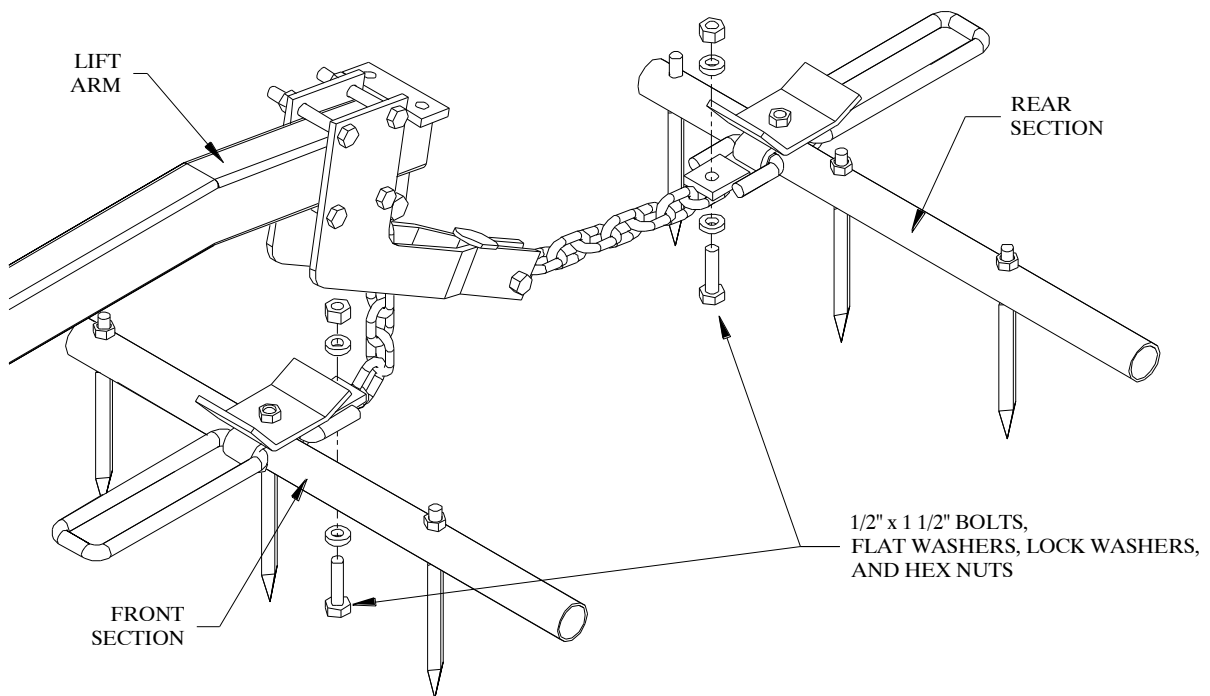

Figure 19
2. Bolt the lift chains to the bottom of the rear lift tabs of the front harrow sections. Refer to Figure 19. Use $\frac{1}{2}$ " x $1\frac{1}{2}$ " bolts, flat washers, lock washers, and hex nuts.